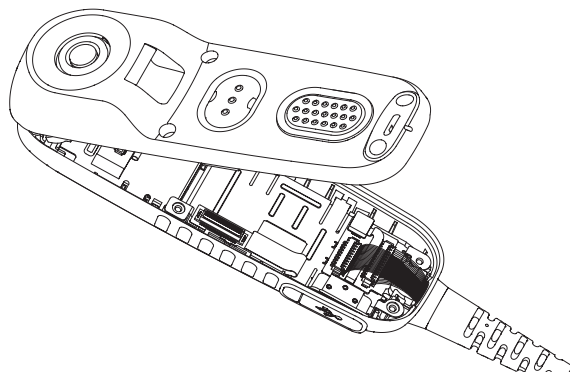

Figure 6-43 LCD and Keypad Flex BTB Connector
11. Assemble the LCD flex and keypad flex BTB connector to the Handset main PCB. Refer to Figure 6-43 below.